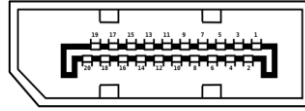

Figure 3-32: External DisplayPort Connector Pinouts
- CN Location:** See **Figure 3-32**